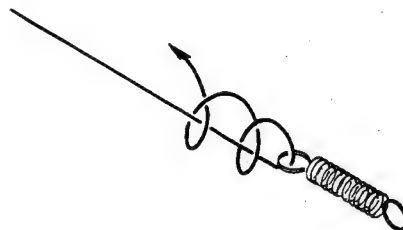

Fig. 17-1
3. Take 50 cm length of string (19-5/8 in), and tie it securely to the spring as shown in Fig. 17-1.